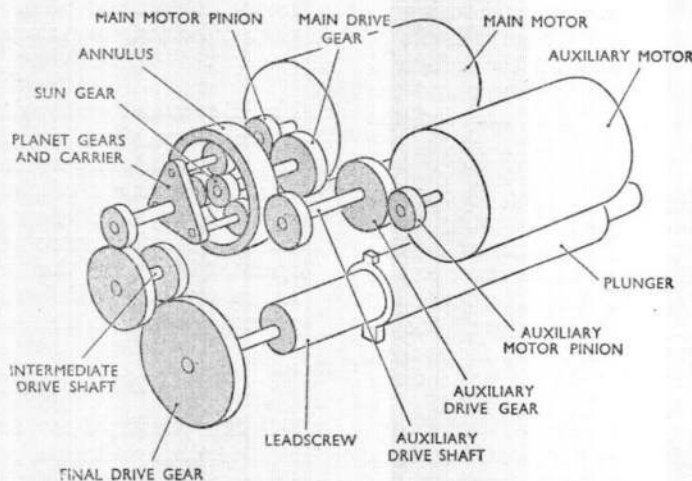

Fig. 3. Reduction gear trains
6. The gear trains (*fig. 3*) consist of two initial spur gear reduction trains (main and auxiliary), and intermediate epicyclic type differential stage, and a final spur gear train, arranged to give a total ratio of 32:2:1.